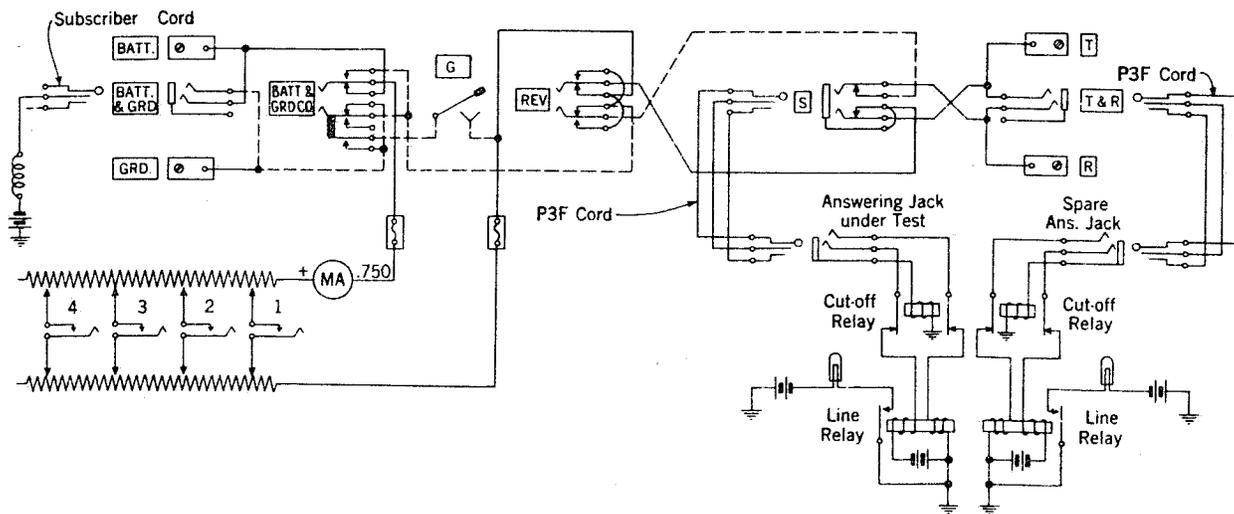

Fig. 4 - Cut-Off Relay - Battery on Ring, Ground on Tip.
3.18 With a P3F cord connect the T&R jack of the test set to a spare answering jack. See Fig. 4. The line lamps associated with the line under test and with the spare answering jack should light.